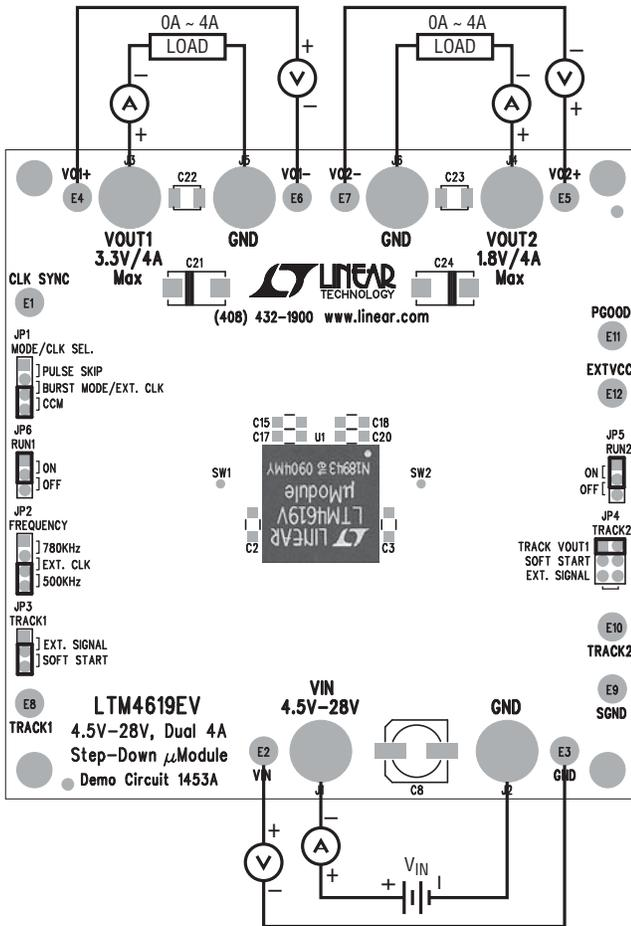

Figure 1. Test Setup of DC1453A
Demonstration circuit 1453A is an easy way to evaluate the LTM4619. If V_{IN} is always below 5.5V, stuff a 0 Ω resistor at R16. Do not stuff R16 if V_{IN} is higher than 5.5V. Please refer to Figure 1 for proper measurement equipment setup and follow the procedure below:
2. With power off, preset the loads to 0A and V_{IN} supply to be less than 28V. Connect the input power supply, load and meters as shown in Figure 1.